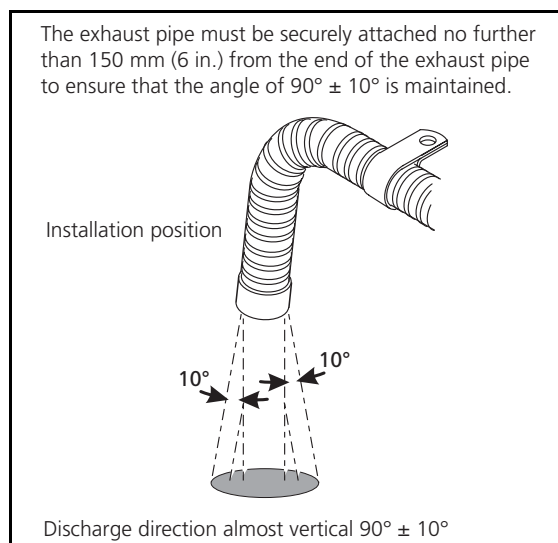

Figure 24. Exhaust pipe opening
*If the exhaust pipe ends other than as shown in Figure 24, it will pose a fire risk.*